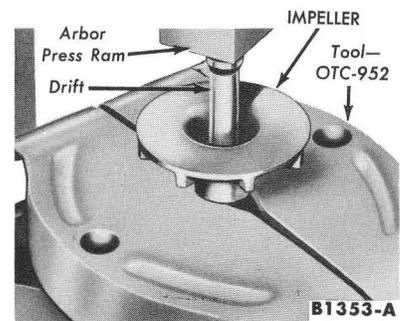

FIG. 4—Impeller Removal
3. Remove the impeller from the shaft (Fig. 4).